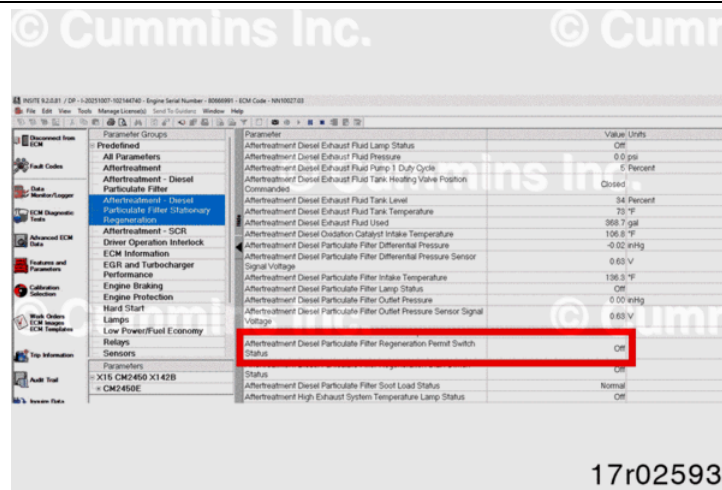

Figure 2, INSITE™ Electronic Service Tool Data Monitor and Parameters
- 2b. Find Parameter "Aftertreatment Diesel Particulate Filter Regeneration Permit Switch Status". Reference Figure 2.